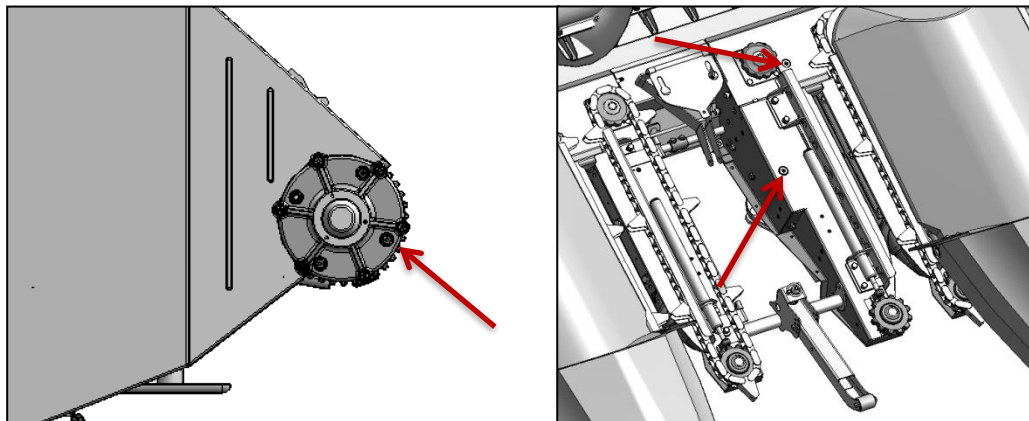

Figure 18: Gearbox check locations (red arrows).
13.4.1. Main Gearbox Oil (left, Figure 18).
13.4.2. Row unit grease level (right, upper, Figure 18).
13.4.3. Chopper oil level (right, lower, Figure 18).